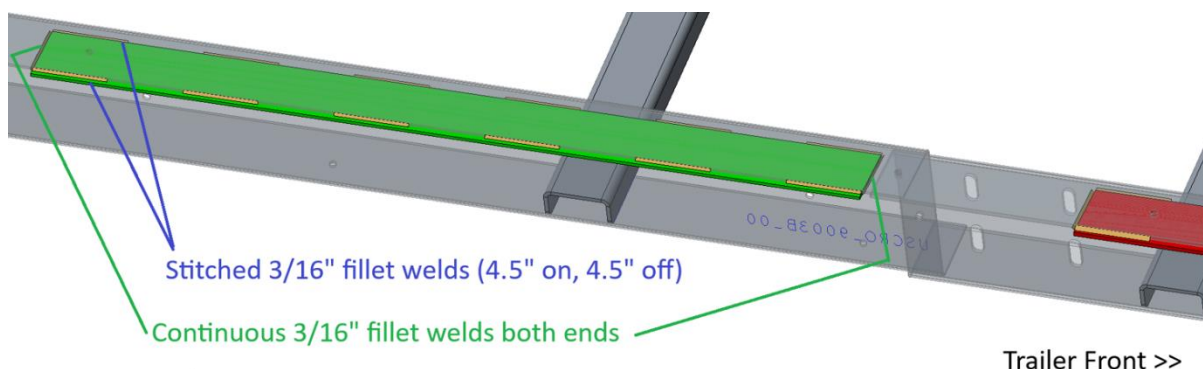

Figure 7: Completed Type 2 Doubler plate installation
5. Figure 7 shows the completed installation.